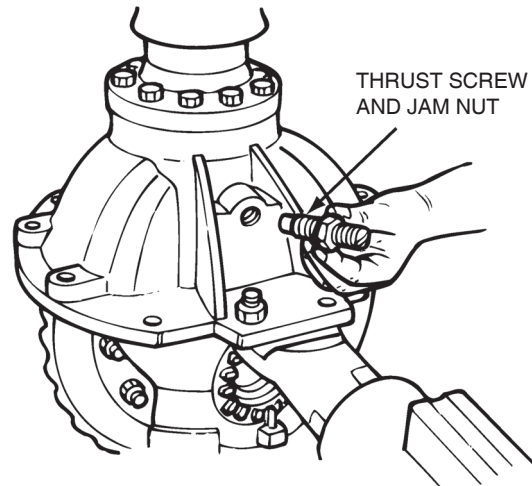

Figure 5.60
2. Install the jam nut in the thrust screw. Thread the jam nut to the middle of the thrust screw. Figure 5.60.